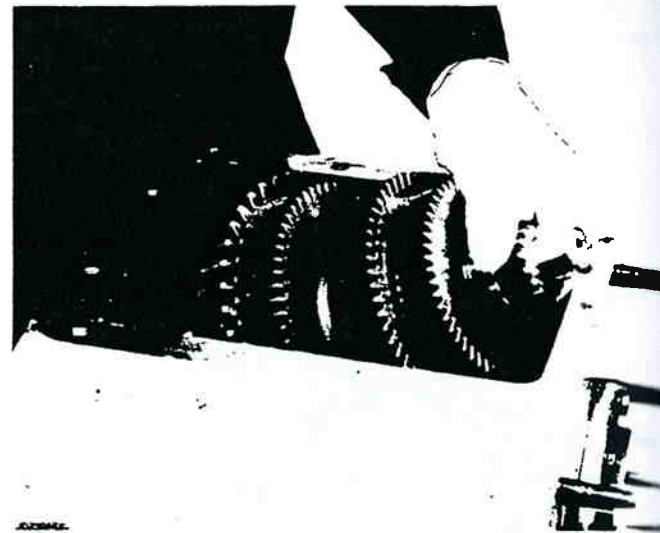

Figure 13-140. Mainshaft Assembly Installation.
2. With the reverse gear as far forward as possible, install the mainshaft into position in case, meshing corresponding gears on left countershaft with those on mainshaft (figure 13-140).